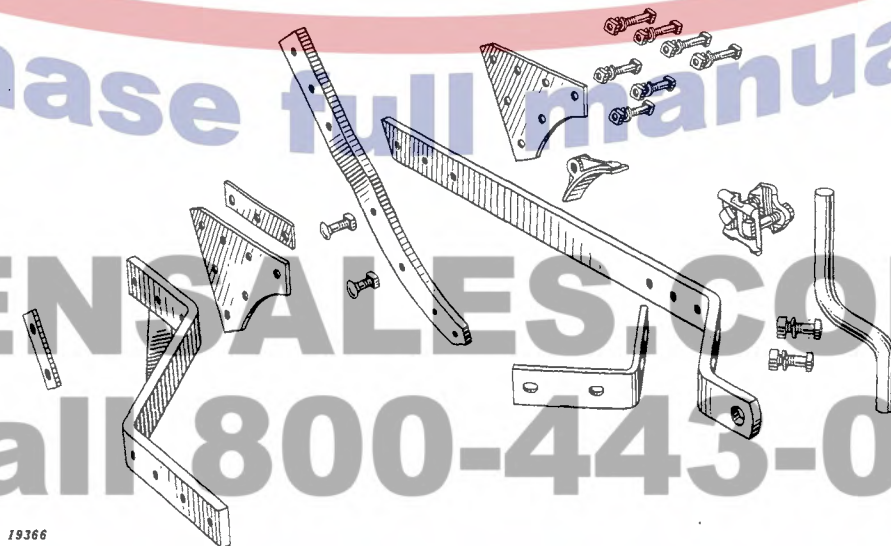
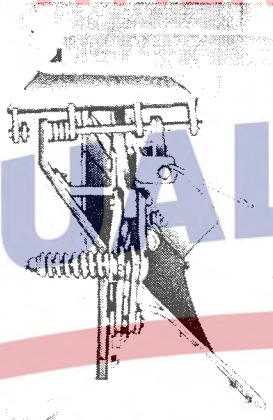

Figure 14—Reducing 2-Bottom Plow
Figure 15—Reducing Two-Bottom Plow
4. Remove parts shown in Figure 14. Shaded area in Figure 15 illustrates parts not needed on reduced plow.
6. If rear wheel and adjustable axle are used, attach to standard as shown in Figure 18. Be sure to use the filler and two long bolts just removed from the rear standard. (See "C," Figure 15.) It may be necessary to readjust the cut of the bottom as described in paragraph on "Adjusting Hitch Plate," pages 6 and 7.